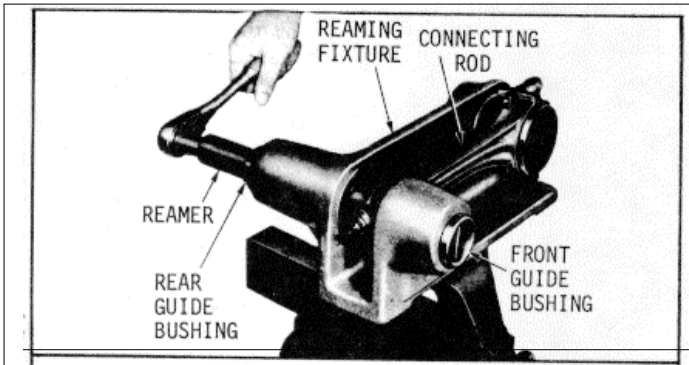

Fig. 9
- (4) Turn the connecting rod over in the holder and install the second bushing in the same manner.
- (5) The bushings must withstand an end load of 2000 pounds (8.896 kN) without moving after installation.
- (6) Ream the bushings to size, using tool set J 1686-03, as follows:
- (b) Place the crankshaft end of the connecting rod on the arbor of the fixture (Fig.9) and tighten the connecting rod cap nuts to 60-70 ft-lbs (81-95 Nm) torque.